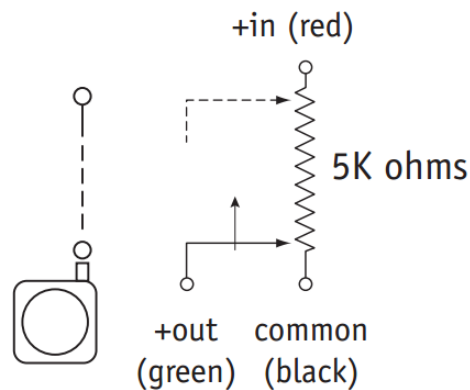

Figure 2 Electrical Connection Schematic for Celesco M150 String Pot
- vii) Connect the negative (black) wire from the power supply to the black wire on the string pot or the ground cable as seen in Figure 2